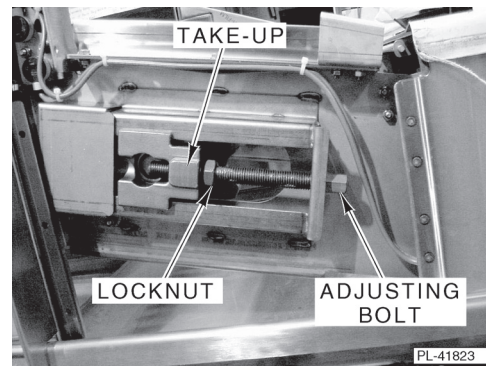

Fig. 37
- Loosen the take-up units (Fig. 37) at the front and rear sides of the load end by loosening the locknuts and threading the adjusting bolts as far out as possible.